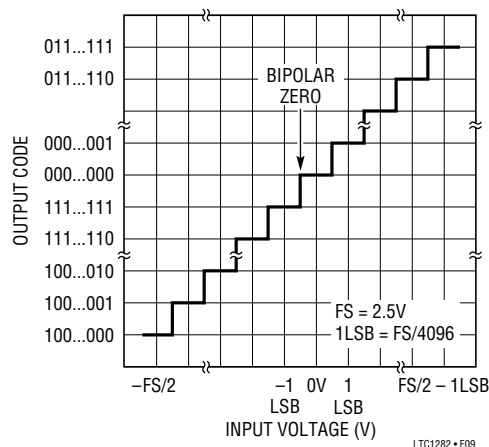

Figure 9. LTC1282 Bipolar Transfer Characteristic
0.61mV. Figure 9 shows the input/output transfer characteristics for the LTC1282 in bipolar operation. The full scale for LTC1282 in bipolar mode is still 2.5V and $1LSB = 0.61mV$.